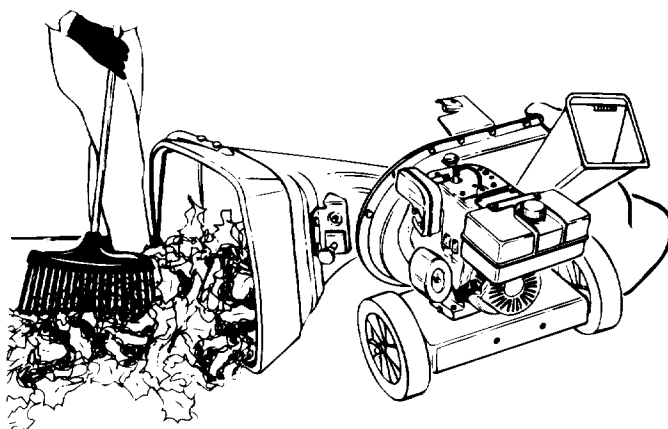

FIGURE 7.
2. Leaves and small twigs can be raked into the shredder when the hopper assembly is lowered to the ground. See figure 7.